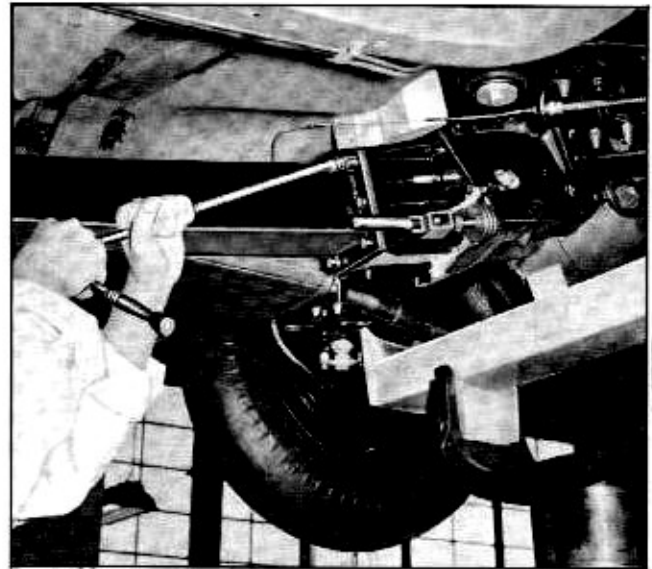

Fig. 4-14 Removing Bolts Connecting Torque Tube to Transmission
16. Remove six bolts connecting torque tube to transmission (Fig. 4-14).